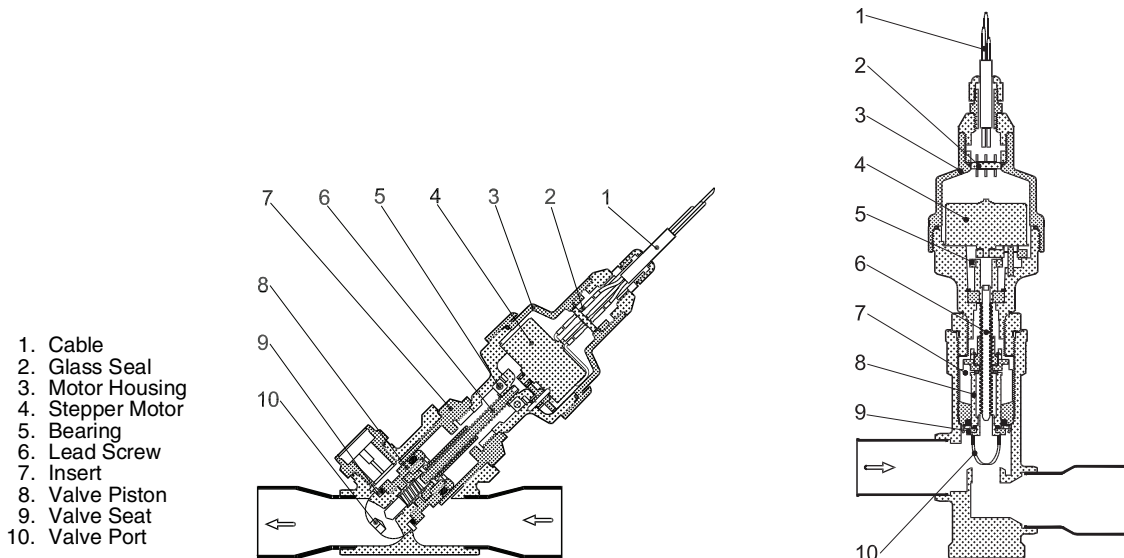

Fig. 72 — Cutaway Views of the Electronic Expansion Valve
See Fig. 72 for a cutaway view of the EXV. High-pressure liquid refrigerant enters the valve through the top. As refrigerant passes through the orifice, pressure drops and refrigerant changes to a 2-phase condition (liquid and vapor). The electronic expansion valve operates through electronically controlled activation of a stepper motor. The stepper motor stays in position unless power pulses initiate the two discrete sets of motor stator windings for rotation in either direction. The direction depends on the phase relationship of the power pulses. The motor directly operates the spindle, which has rotating movements that are transformed into linear motion by the transmission in the cage assembly. The valve cone is a V-port type which includes a positive shut-off when closed. The large number of steps and long stroke results in very accurate control of the refrigerant flow. The stepper motor has either 3810 (main) or 2625 or 3530 (economizer) steps.
2. The expansion valve motor is hermetically sealed inside the top portion of the valve. See Fig. 72. Disconnect the EXV plug. Carefully unscrew the motor portion from the body of the valve. The EXV operator will come out with the motor portion of the device. Reconnect the EXV plug.
3. Enter the appropriate EXV test step under the Test mode (*Main Menu → Quick Test Table*). Locate the desired parameter for the Main EXVs: Circuit A EXV Position, Circuit B EXV Position or Economizer EXVs: EXV Eco Position Cir A, EXV Eco Position Cir B. Change the position to 100%. Observe the operation of the lead screw. See Fig. 72. Motor actuator movement should be smooth and uniform from fully closed to fully open position. Select 0% and check open to closed operation. If the valve is properly connected to the processor and receiving correct signals, yet does not operate as described above, the sealed motor portion of the valve should be replaced.